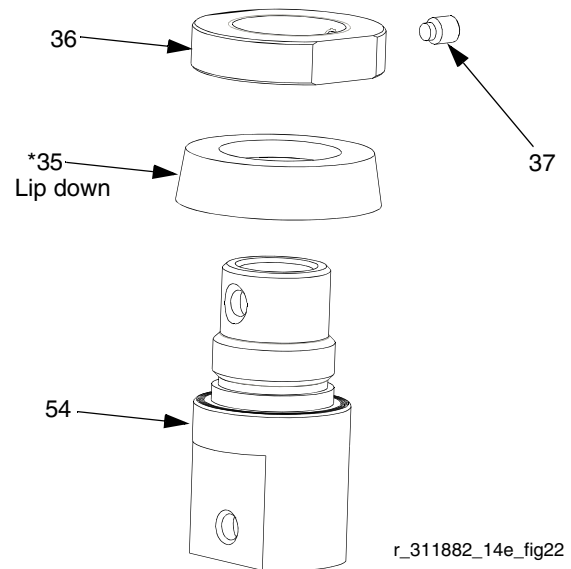

FIG. 22
- Loosen set screw (37) from collar (36). Remove collar from piston housing (54). Remove u-cup (35\*). Inspect all parts for damage. See FIG. 22.